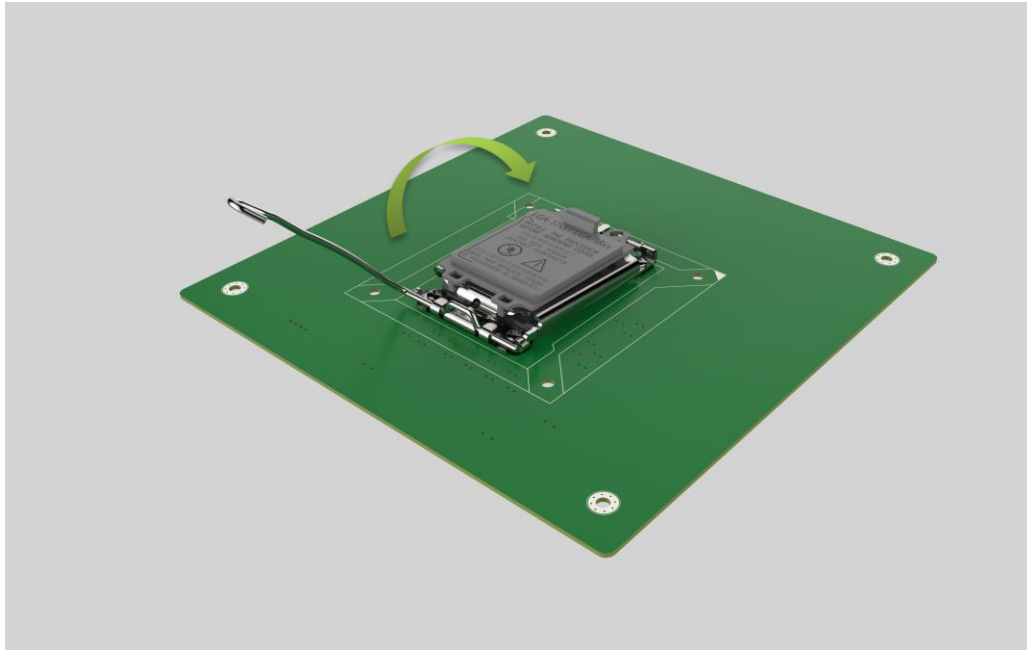

Figure 4-6: Close the Socket LGA1700
Step 8: Close the CPU socket. Close the load plate and pull the load lever back a little to have the load plate be able to secure to the knob. Engage the load lever by pushing it back to its original position (**Figure 4-6**). There will be some resistance, but will not require extreme pressure.